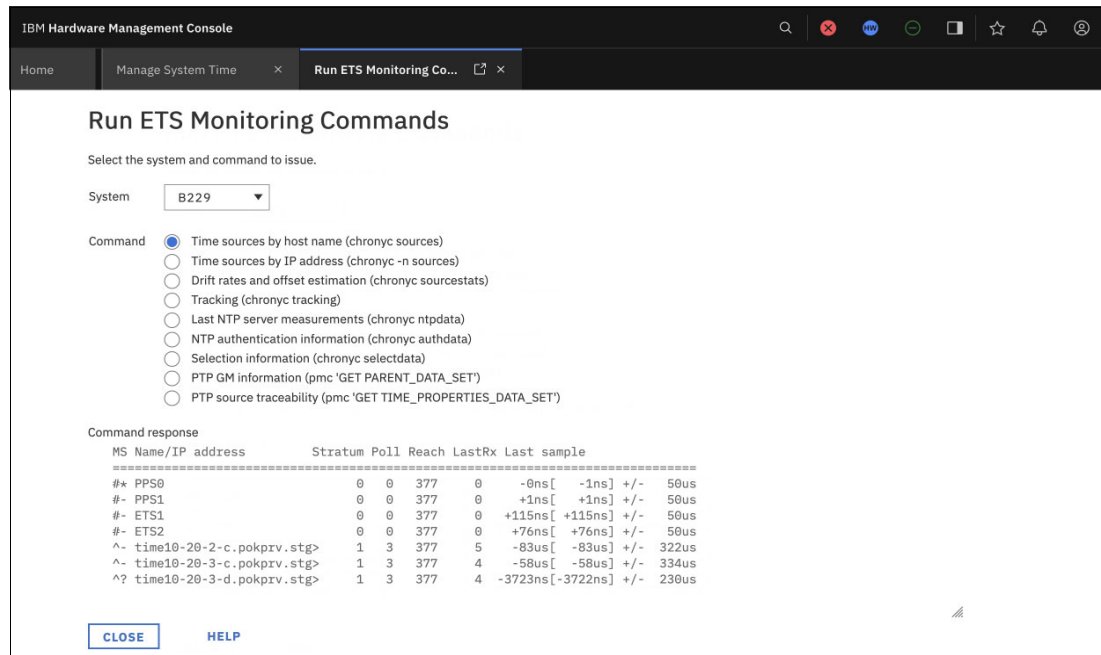

Figure 4-50 System B229 and its time sources by hostname
2. Select the system for which you want to monitor the ETS and the aspect you want to monitor. Figure 4-50 on page 93 shows the time sources configured for the IBM z17 B229 system.